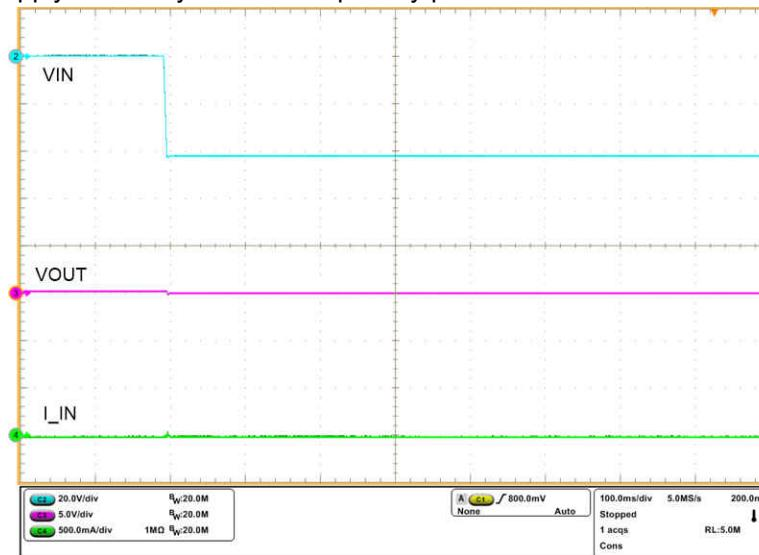

Figure 4-8. Reverse Polarity Protection
- Enable the power supply and verify the reverse polarity protection waveform as shown in Figure 4-8.